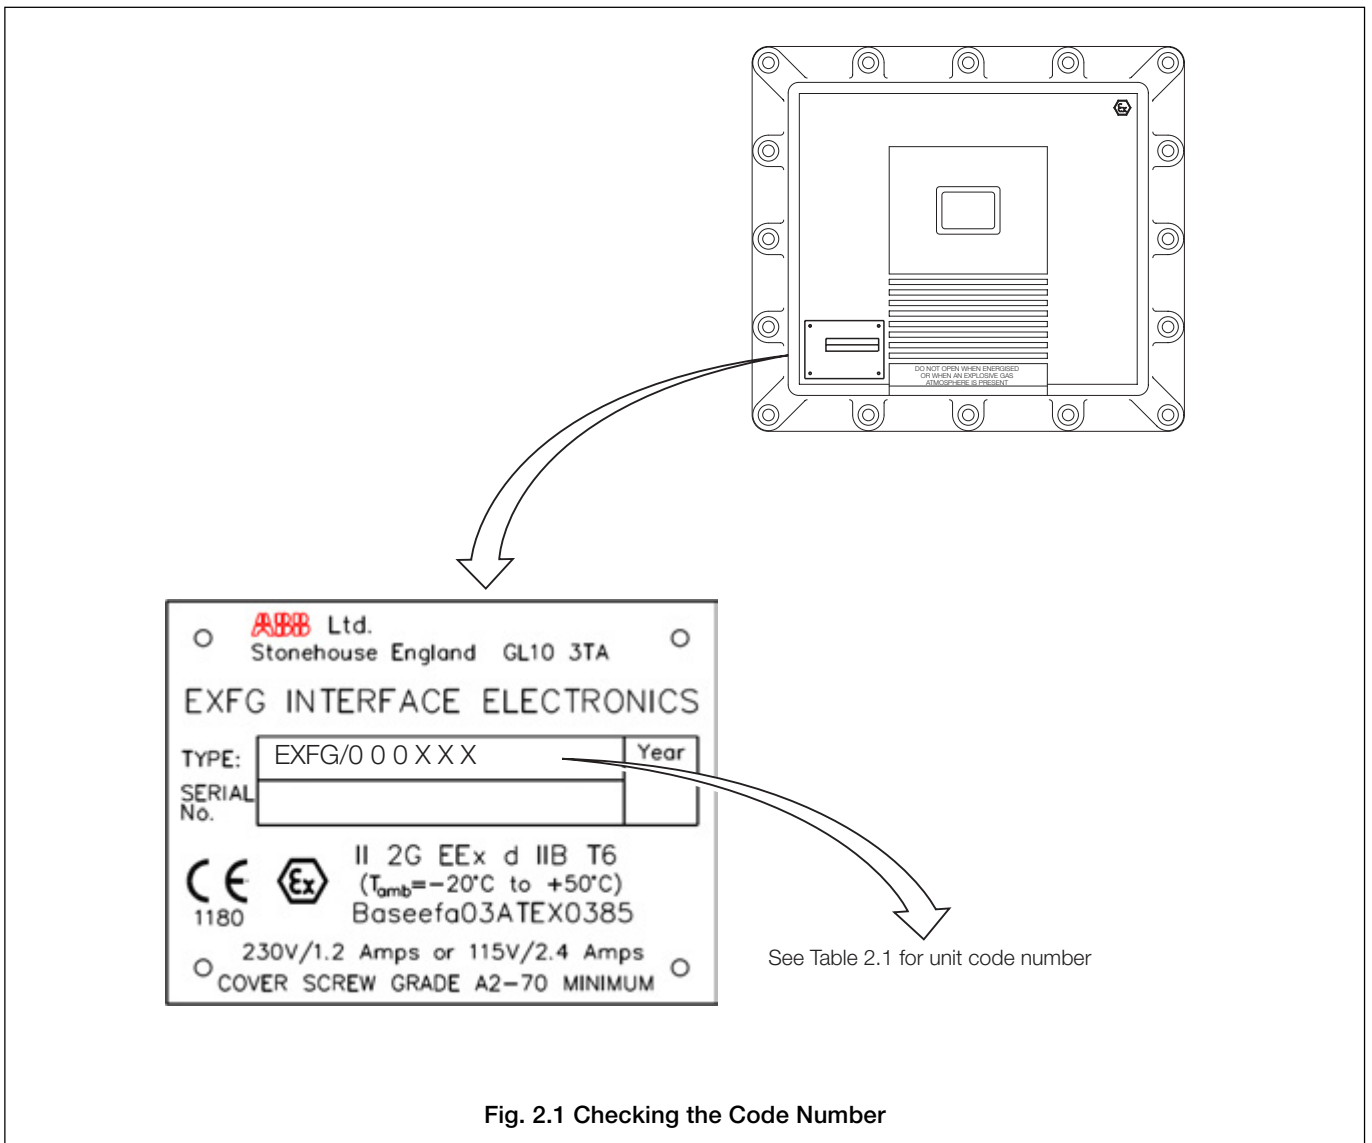

Fig. 2.1 Checking the Code Number
2.1 Checking the Code Number – Fig. 2.1